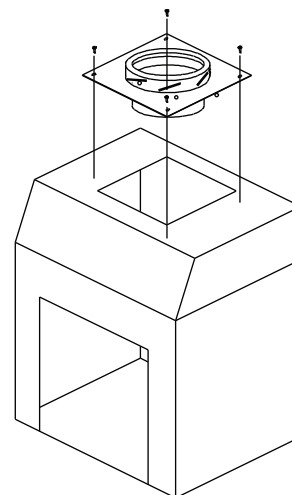

Figure 31
Once the appliance is installed, bolt the anchor plate (AP) to it. Install the chimney according to the installation instructions for the finish support (DTC-FSC) (See figure 31).